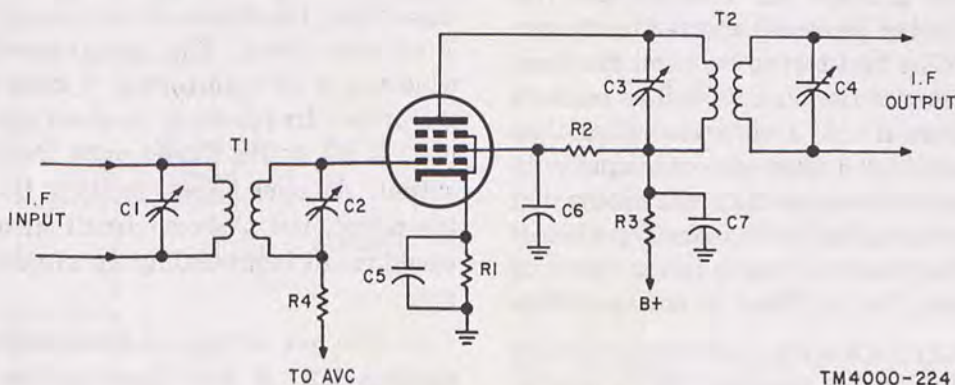

Figure 51. IF amplifier stage.
a. The method of isolating trouble in an IF amplifier is similar to that used for an audio amplifier. There will be shorted or open capacitors, open resistors, and open inductors; they can be detected by making voltage and resistance measurements. An IF stage is shown in figure 51.